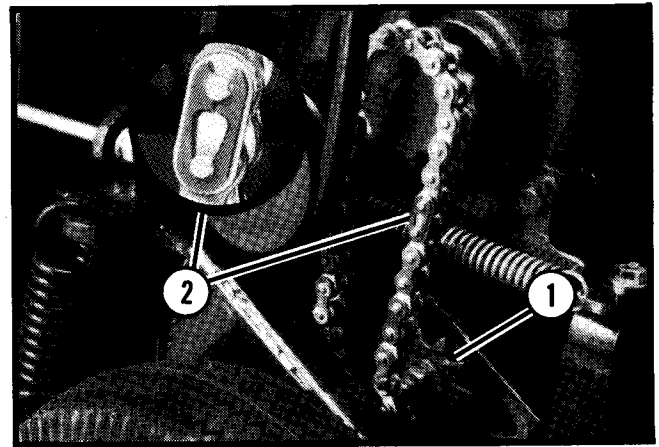

Figure 10. Drive Chain
3. Open the connecting link and remove the chain (See Figure 10).